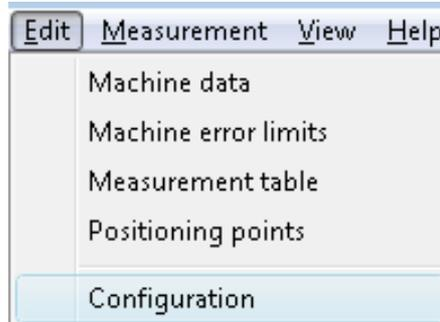

**FIG.5.8.** COMPENSATION TABLE PREPARATION WINDOW
**Compensation table preparation** (figure 5.8) is an option used after measurement finish (before start it is not enabled). From the end results the software calculates the errors and suggests the machine control the compensation values. Because different machine controls require different format of compensation file, thus in the compensation table preparation window the right data format has to be set together with options required in the chosen format.